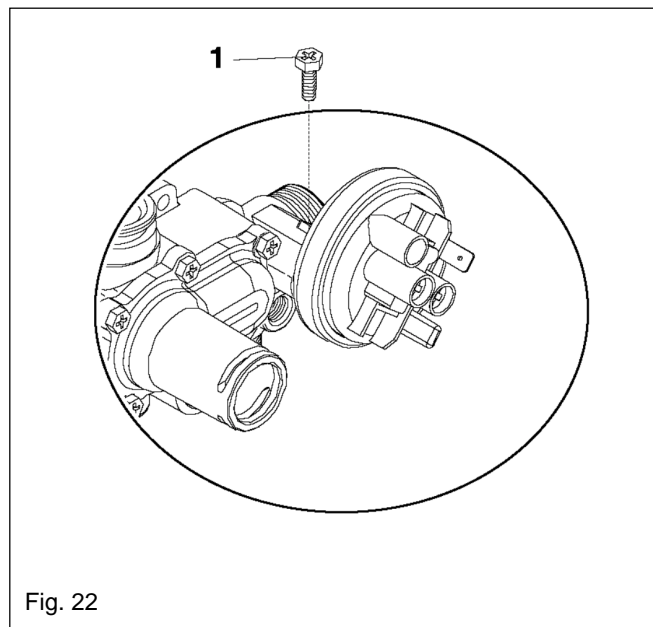

Fig. 22
6.8 WATER PRESSURE SWITCH (see fig. 22)